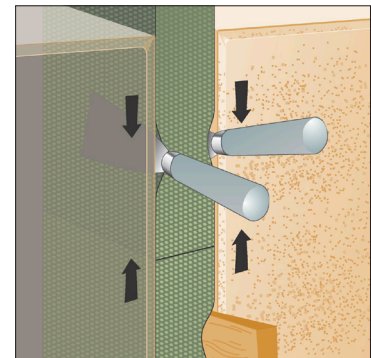
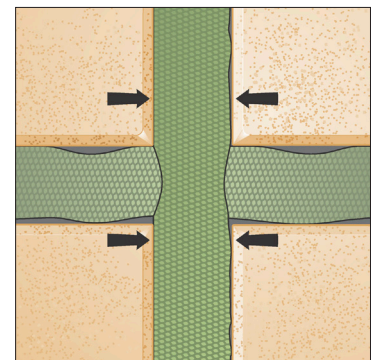

Fig. 2 – Compression of tape to make weathertight butt joints
Fig. 3 – Compression of tape to make weathertight cross joints
- At the end of a roll, cut off the tape wedge finish. Repeat the process with a new roll, making a close compressed butt connection as shown in Fig. 2. At cross of crucifix joint, install as per Fig. 3.